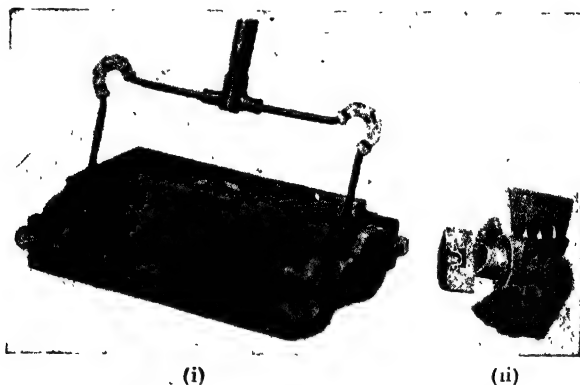

FIG. 25. A CARPET SWEEPER.
placed between the axle and the hub, and these roll round as the axle turns. The wheels of roller skates, and the pedals and wheels of a bicycle contain ball bearings. Fig. 25 shows how they facilitate easy running in a carpet sweeper.
Nowadays there is a great deal of talk about atomic energy, which is a form of energy derived directly from changes in the structure of atoms. These changes result in the generation of heat which can be turned into electrical energy. This is how atomic power stations work. Fig. 25(A) shows the first atomic power station erected in Great Britain.